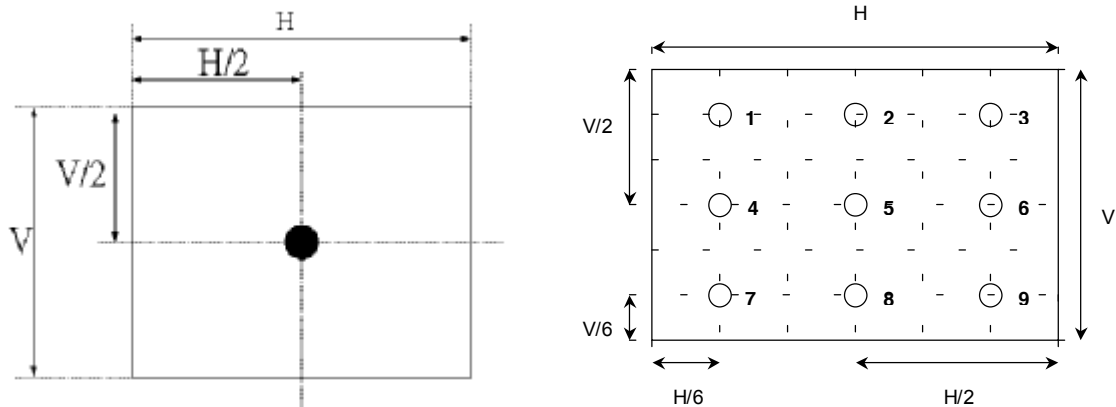

Fig.4-2 Optical measurement point
2. Surface luminance is luminance value at point 1 across the LCD surface 50cm from the surface with all pixels displaying white. From more information see Fig. 4-2. When $V_{DDB} = 24V$, $I_{DDB} = \text{TBD}$. $L_{WH} = L_{on1}$, Where L_{on1} is the luminance with all pixels displaying white at center 1 location.